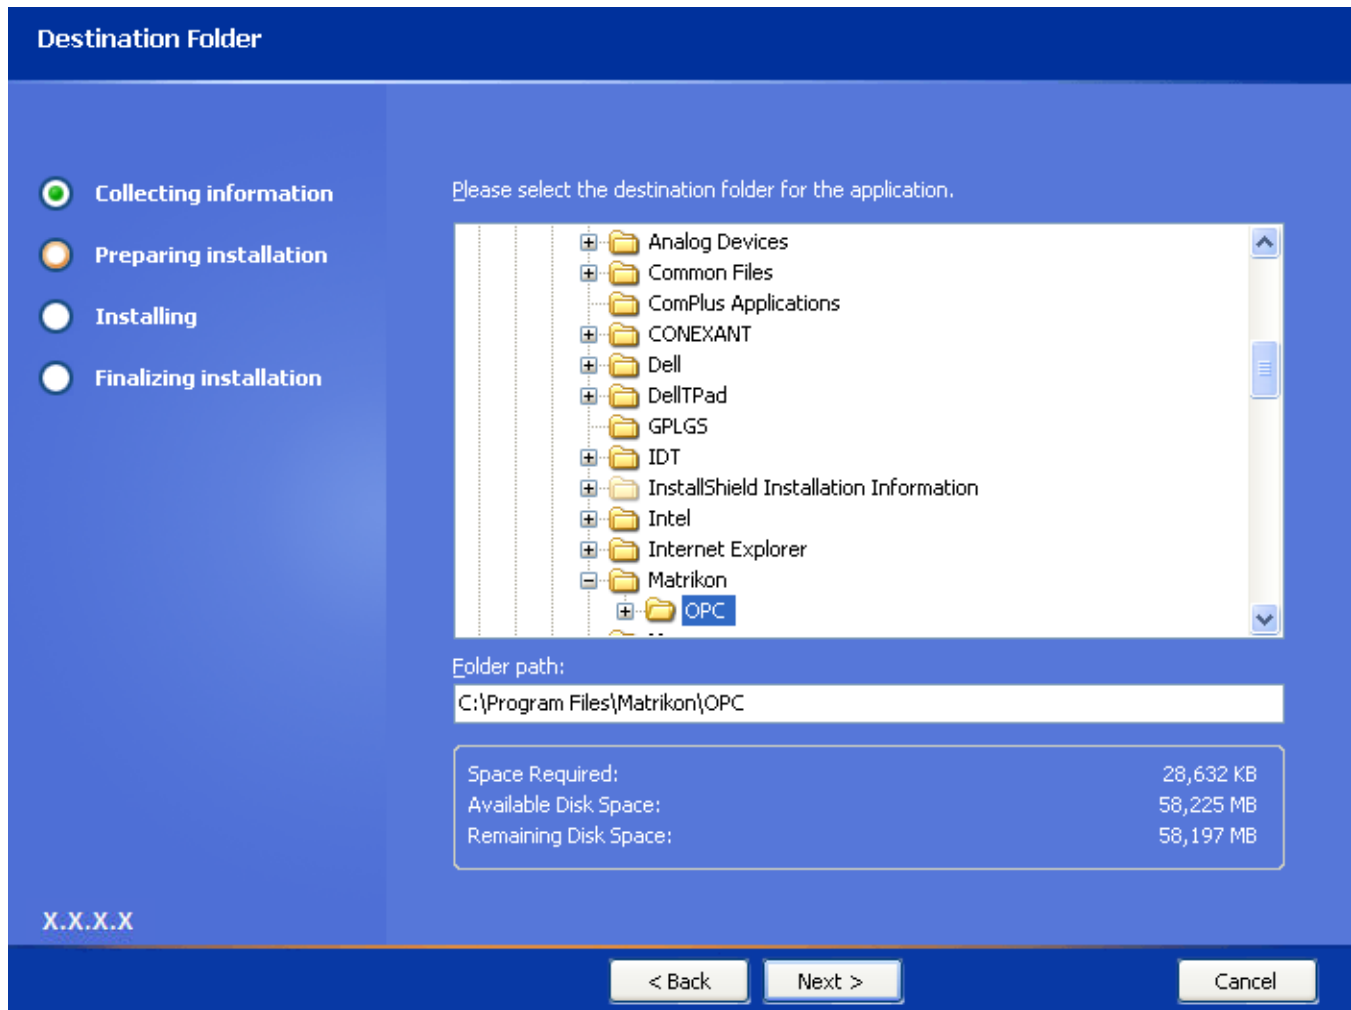
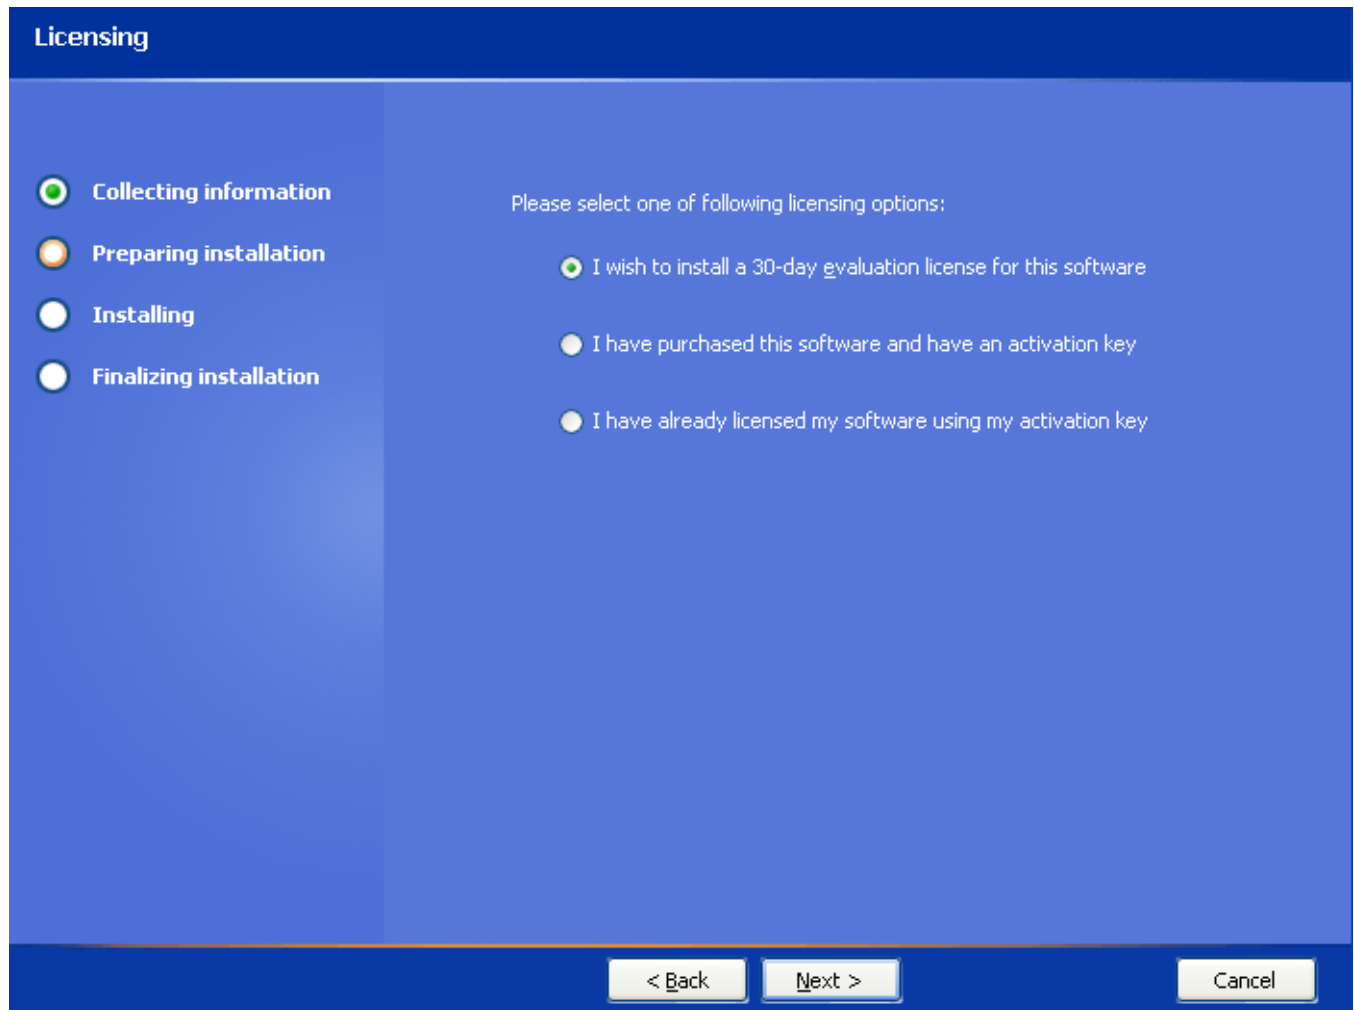

Figure 7 - Destination Folder Screen
Figure 10 - Licensing Screen
8. Click on the **Next** button. If you selected an **Express** setup, the **Licensing** screen (Figure 10) appears, otherwise the **Destination Folder** screen (Figure 7) appears.
14. Click on the **Next** button to accept the default password. The **Licensing** screen (Figure 10 - Licensing Screen) appears.